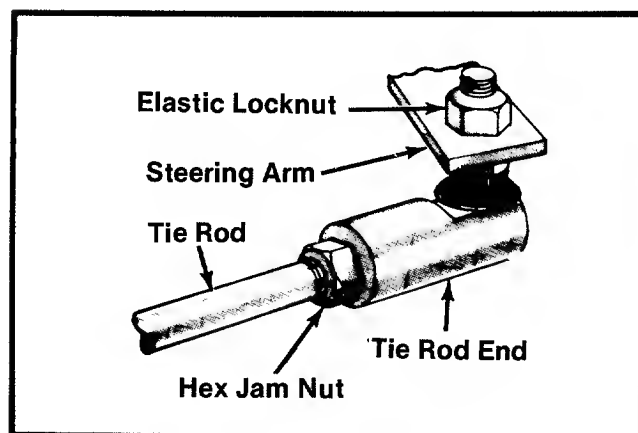

Figure 27
1. Remove the elastic locknut and drop the tie rod end from the steering arm. (See figure 27.)